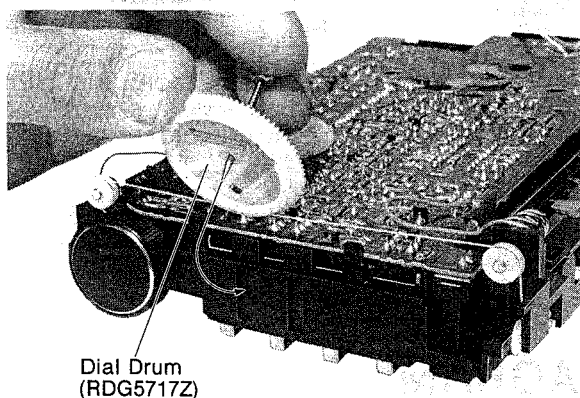

Fig. 6
*1 Detach dial drum (RDG5717Z) from the Variable Capacitor and fit it securely into the chassis holes as indicated by the arrow by using a pin, etc. (Fig. 6).